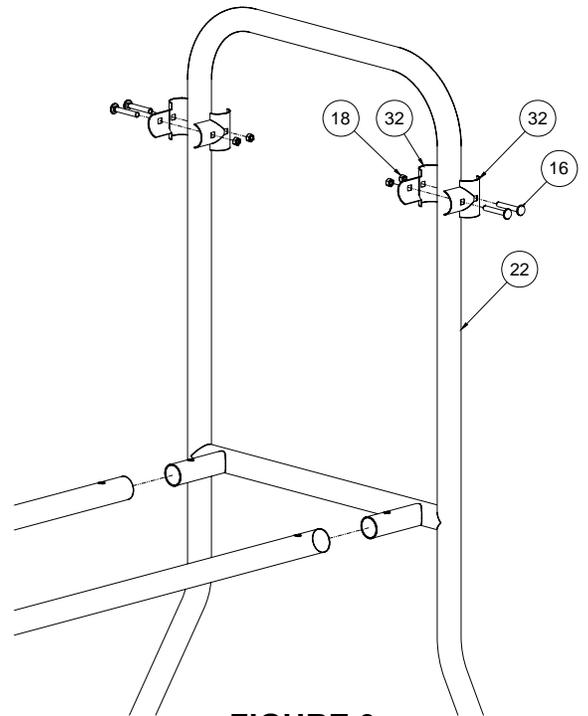

FIGURE 3
1. Begin by locating the rear frame, front cross tubes (2), and the split tees as shown in **FIGURE 3**. Attach front cross tubes to the rear frame by sliding over the inserts as shown in **FIGURE 3**. (Do not bolt cross tubes in at this time) Attach (4) split tee halves at the top of the rear frame using (4) 3/8"x2-1/2" carriage bolts and (4) 3/8" hex nuts. NOTE: Do not tighten any hardware until final step.